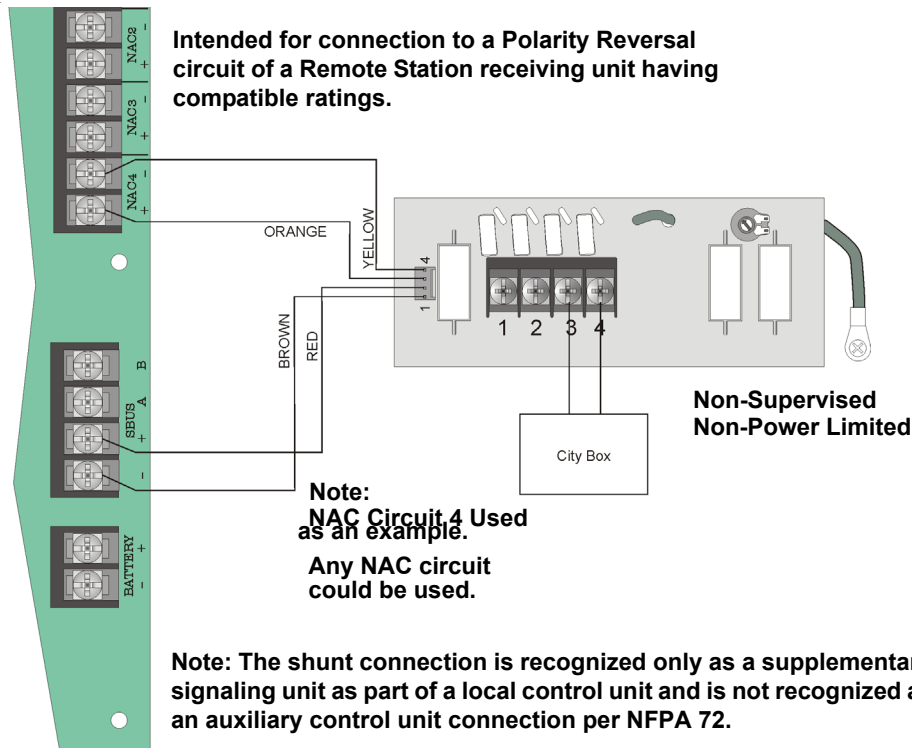

Figure 4-32 City Box Connection
2. Wire the 5220 to the control panel as shown in Figure 4-32. This drawing also shows how to connect the city box coil to terminals 3 and 4 on the 5220. Do not install an EOL resistor in the terminals of the NAC circuit used for this application.